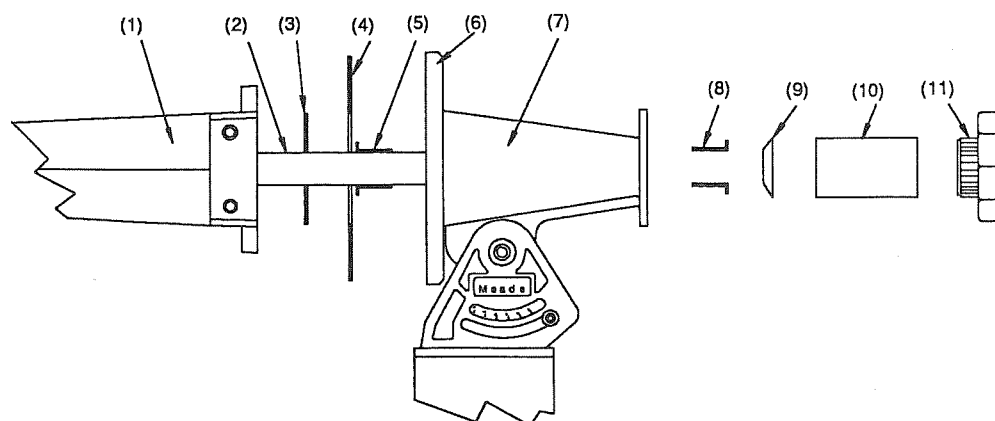

Fig. 5
2. Remove the R.A. lock knob (#11, Fig. 5) and slide off the R.A. drive spacer (#10, Fig. 5) and Spring washer (#9, Fig. 5).
3. The cone shaped polar housing (#7, Fig. 5) can now be removed from the rest of the telescope by sliding it off the polar shaft (#2, Fig. 5).
4. Position the R.A. setting circle onto the machined step in the R.A. setting circle housing (#6, Fig. 5).
5. Slide the polar housing back onto the polar shaft. Refer to Fig. 5 for the correct positioning of all parts.